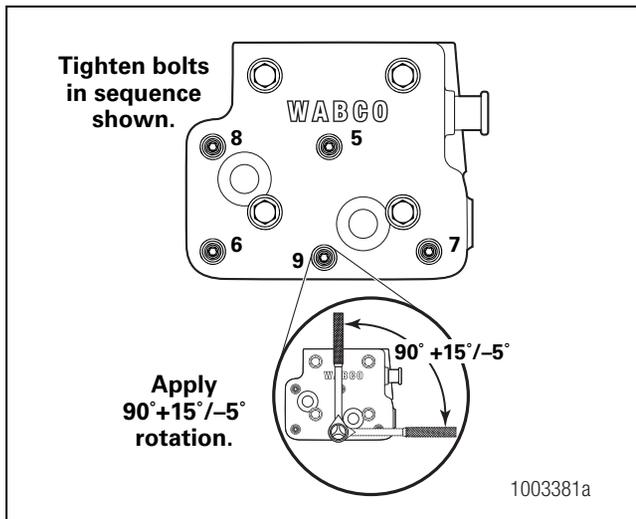

Figure 3.10
6. Use a Torx® tool to tighten the five Torx® head screws in sequence (5 - 6 - 7 - 8 - 9) to 4.4 lb-ft ( $6 \pm 0.6$  N•m). Then, apply an additional  $90^\circ +15^\circ/-5^\circ$  rotation to the five Torx® head screws. Use an angular gauge to check the rotation. Figure 3.10.